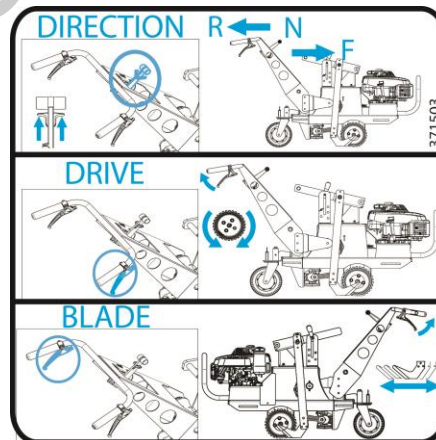

Fig. 1
**DRIVE CONTROL:** Located on the right hand side of the handle bars. When engaging the drive lever, pull it till it comes into contact with the handle bar. Do not halfway engage the drive as this will cause premature failure of the transmission. (See Fig. 1)